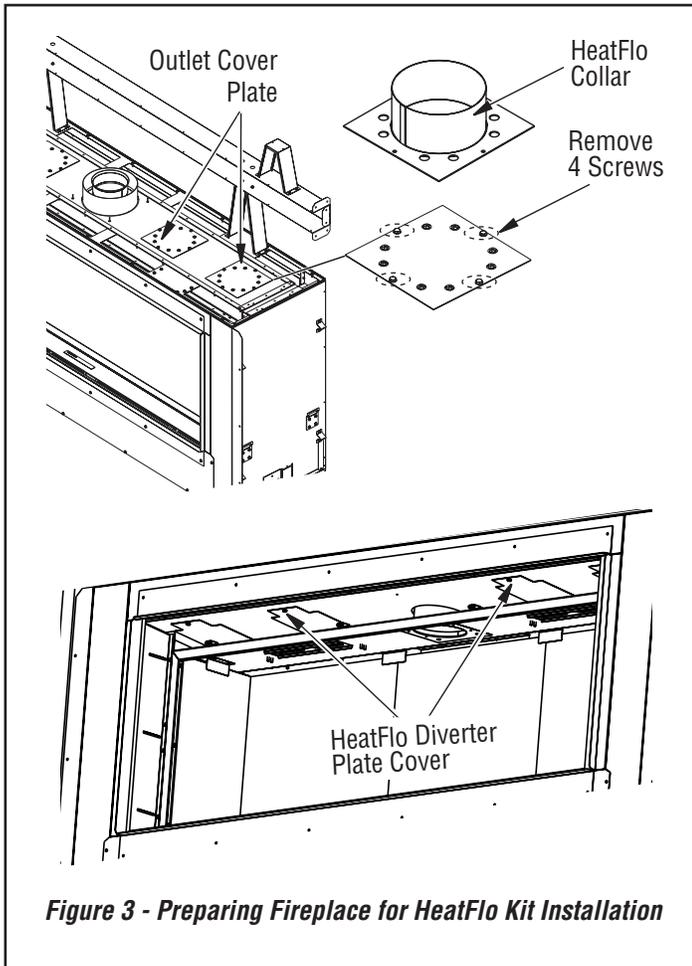

Figure 3 - Preparing Fireplace for HeatFlo Kit Installation
2. Remove/discard the four HeatFlo outlet cover plates from fireplace top by removing 4 screws on each outlet cover plate, save the screws for installing the HeatFlo collars (**Figure 3**).
3. Install the four HeatFlo collars to firebox top with the screws removed in step 2 (**Figure 3**).